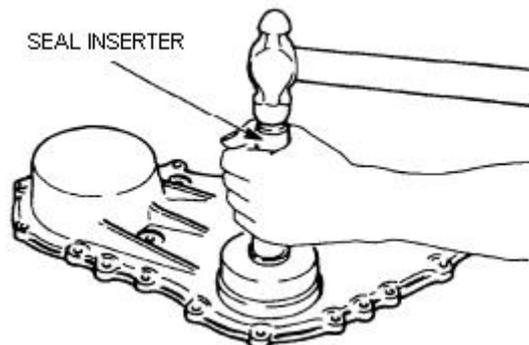

Figure 56 Installing the Timing Case Oil Seal
- kkk.** Install a new oil seal into the timing cover using the seal inserter (Table 3, Serial 11) and a hammer (Figure 56) and smear the sealing lip with rubber grease.